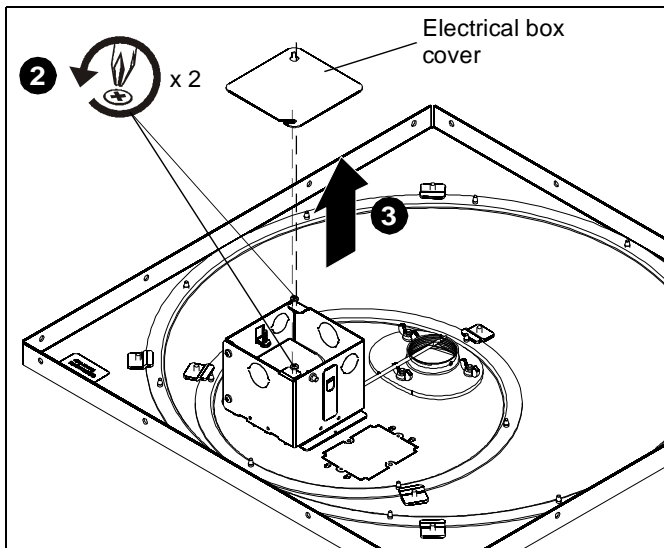

Figure 6
- Remove electrical box cover. (See Figure 6)